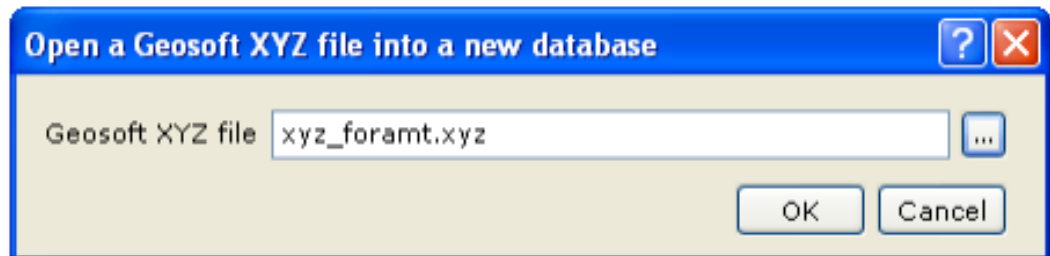

Figure 1.64. – Open a Geosoft XYZ file panel
1. On the Database menu, select Import, and then select Geosoft XYZ. The *Open a Geosoft XYZ file into a new database* dialog is displayed, fig. 1.64.